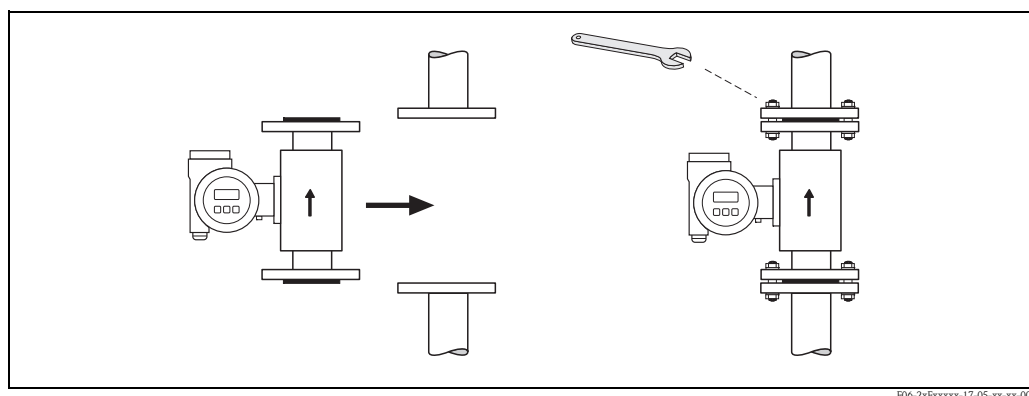

Fig. 20: Installing the Promag P sensor
1. Place the ground disk and additional seal(s) between the instrument and the pipe flange (see Fig. 20).